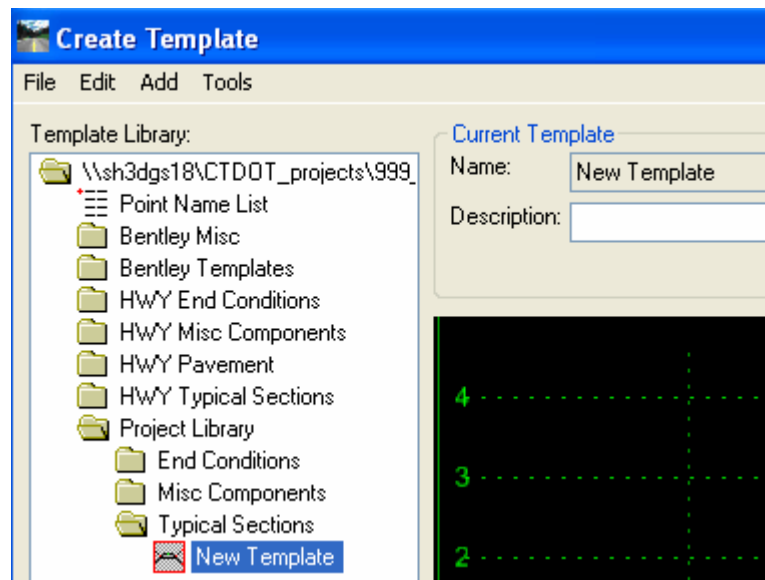

Figure 6-16 InRoads Create Template Dialog Box Renaming a Template
- C. Open the **Project Library** Folder and in the **Typical Sections** folder, and create a new template. Right click on the **Typical Sections** Folder and select **New > Template**. The new template will be highlighted in blue, type in **CT_RDWY1** and rename the new template. (See Figure 6-16)